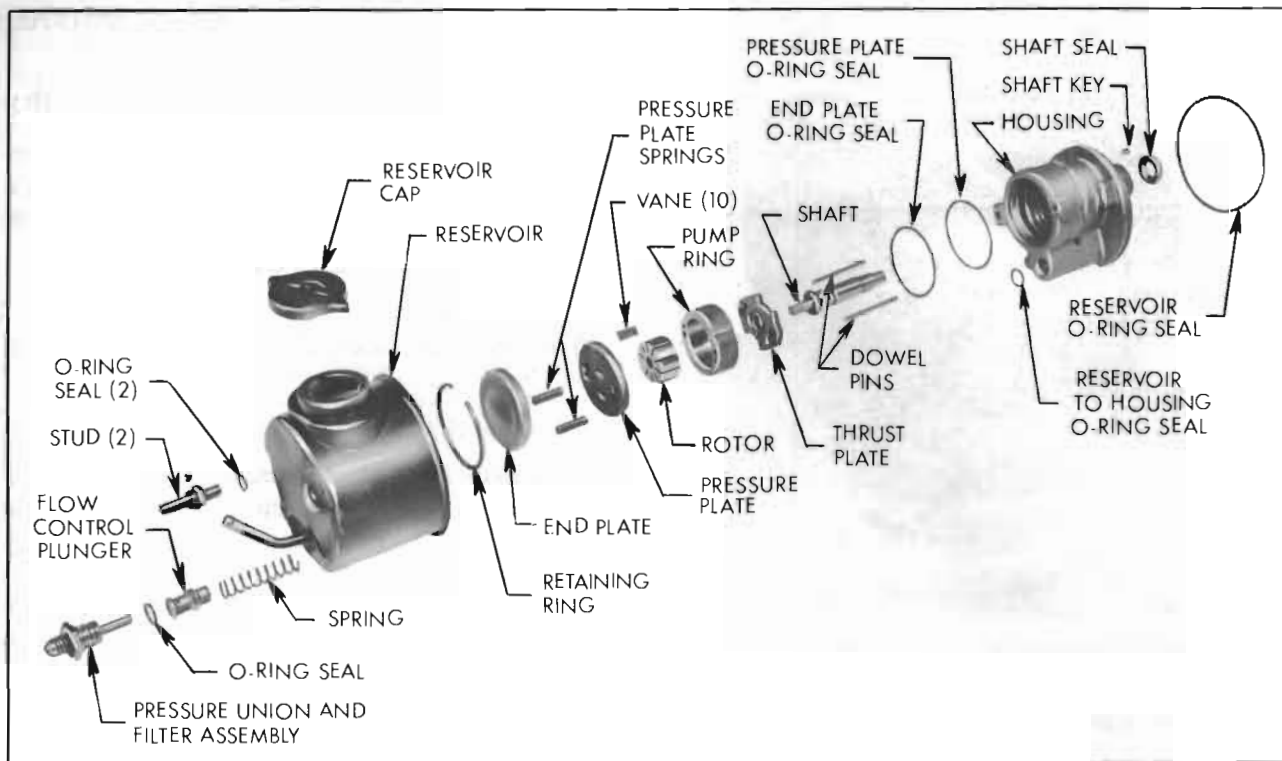

Figure 8-55—Exploded View of Oil Pump
**NOTE:** Use Figure 8-55 Exploded View of Oil Pump as a guide during assembly.